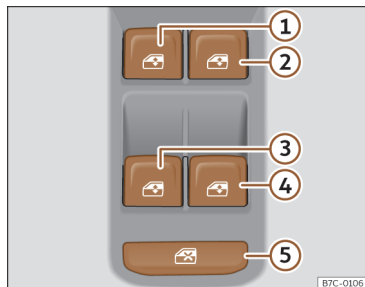

Fig. 89 Detail of the driver's door: window controls.
The safety control >>> **Fig. 89 ⑤** on the driver's door can be used to disable the electric window buttons on the rear doors.